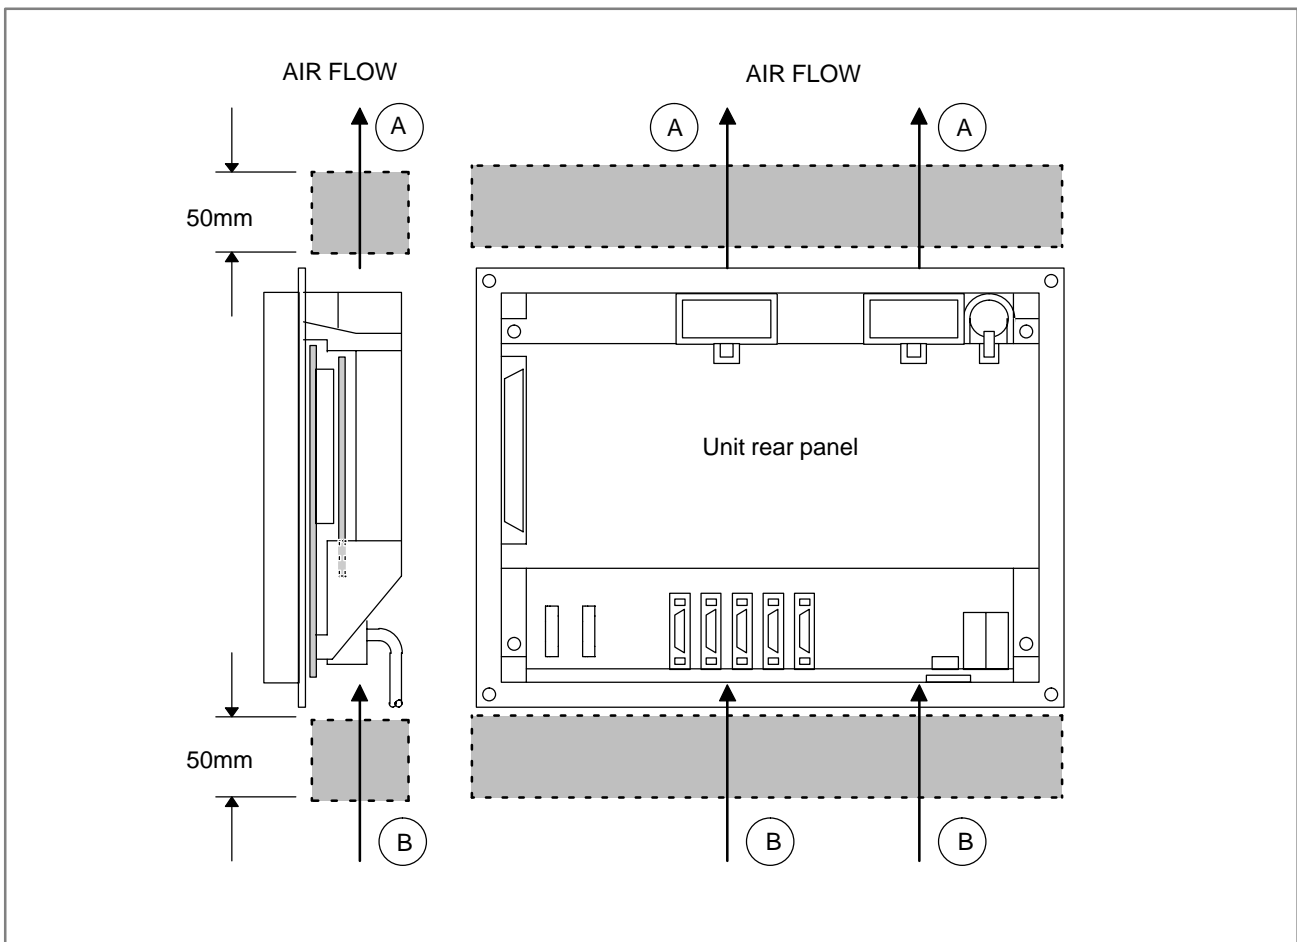

Fig. 3.6.1
Space (A), shown in Fig. 3.6.1, must be provided to ensure unrestricted air flow. Also, space (B) should be provided whenever possible. When space (B) cannot be provided, ensure that nothing is placed in the immediate vicinity which could obstruct the air flow.